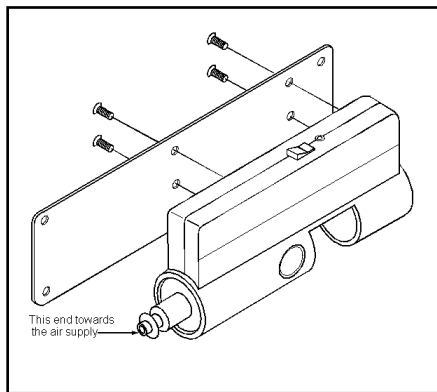

Fig. 1
Choose a location convenient to the work area and to the air supply. The console takes up very little space and is adaptable to a variety of permanent or non-permanent installations. To minimize bends in the air gun hose, orient the console so that the open end that accepts the filtered air hose to the hand unit points toward the work area, and the male connector points toward the air supply. See Figure 1.
- Attach the supplied mounting plate to the threaded holes on the back of the console, using the supplied screws. See Figure 1.